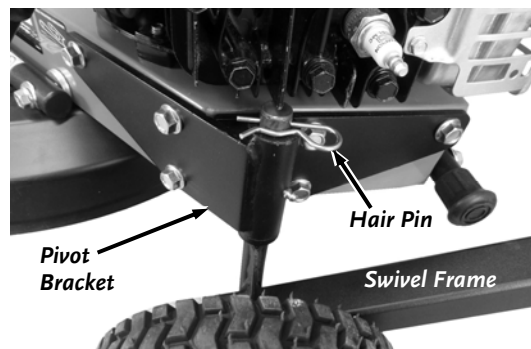

Figure 7
7. Insert the Swivel Frame Shaft into the Frame Pivot Bracket and secure with a Hair Pin (**Figure 7**).